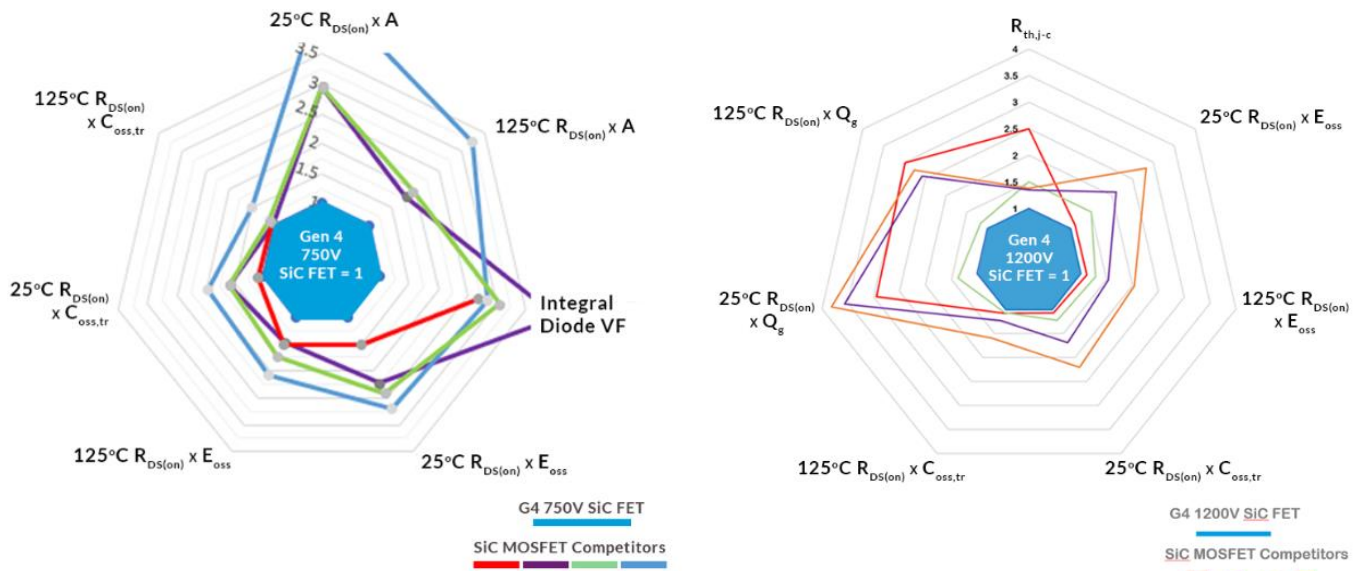

Figure 1. Figures of merit parameters normalized to Gen 4 SiC FETs. 750V is on the left. 1200V is on the right.
Step 1	Measure the VDS turn-off oscillation frequency (f_0). See Figure 1.